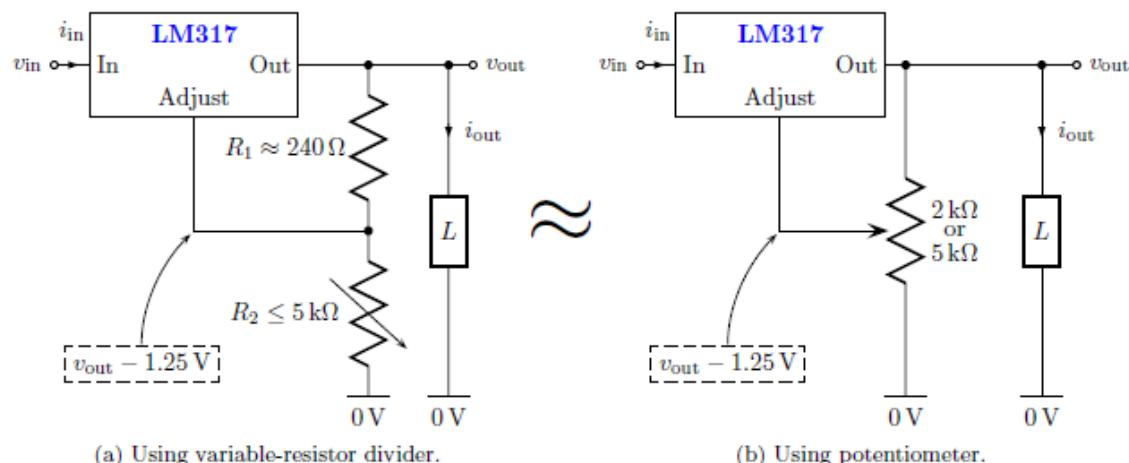

Figure 2: LM317 adjustable series voltage regulator with load L. Use $40V > (v_{in} - v_{out}) > 3V$.
The two circuits in Figure 2 are identical. The LM317 maintains 1.25V potential difference between its “Out” and “Adjust” pins, and the voltage divider acts as a lever propping v_{out} above the ground reference. The aim of this experiment is to understand the working and use cases of voltage regulators and potentiometers.
In Figure 2(a), the (temperature-independent) output is given by
1. Design (i.e., choose components for desired output) and build the regulator in Figure 2(a) or (b).
- (i) From Figure 2(a), set $R_1 \approx 240$ and calculate R_2 . Implement R_2 with a variable resistor made from adjacent legs of a 2 k or 5 k potentiometer.
- (ii) From Figure 2(b), adjust a 2 k or 5 k potentiometer for the right $R_1/(R_1 + R_2)$ ratio.
In Figure 2 replace LM317 with LM7805 and repeat the procedure.